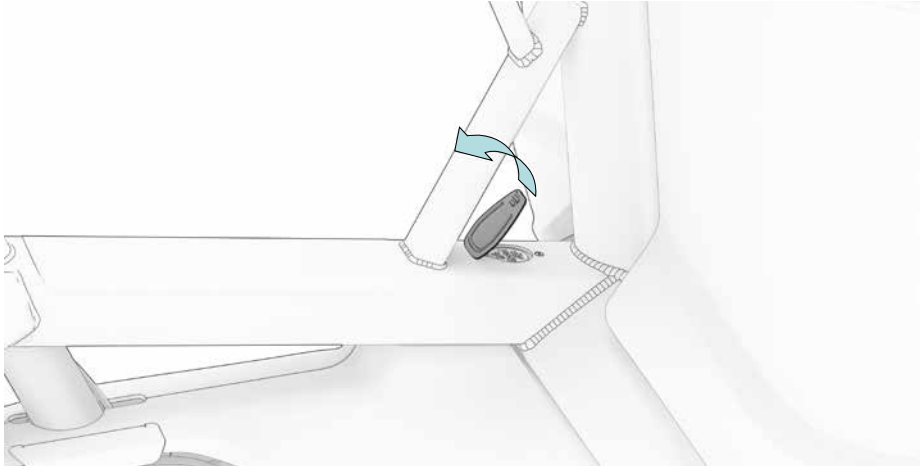

Fig. 17
2. Open the dust cap of the charging port (Fig. 17) and connect the cable of the charger to the charging port.